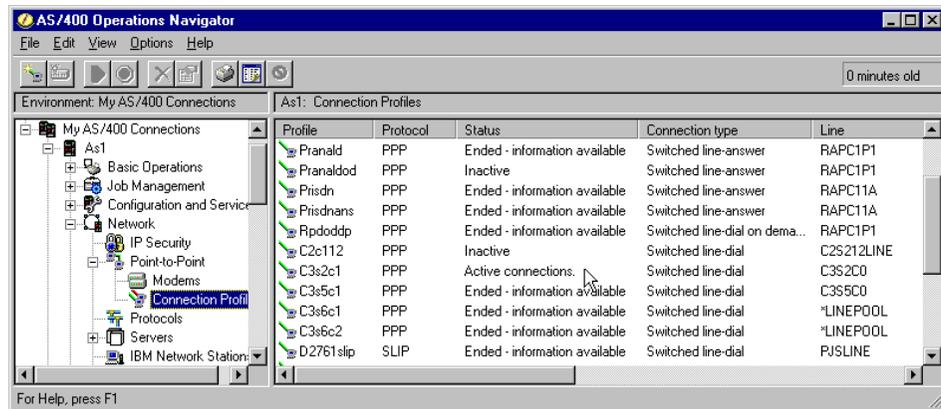

Figure 76. Status after starting the profile on AS1
4. Check the status after starting the profile on AS1 (Figure 76).